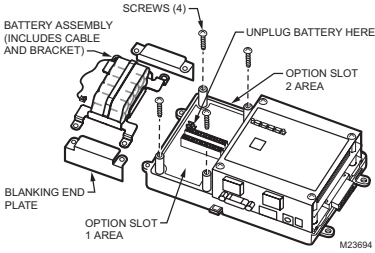

Fig. 2. Remove Screws and Battery Assembly.
FTT-10A LON (LonWorks) adapter with 2-position removable screw-terminal connector plug.	<p>Up to 2 LON® option cards may be installed.</p> <ul style="list-style-type: none"> If one Lon option, it operates as LON1, regardless of slot. If two LON options, LON1 is Option slot 1 and LON2 is Option slot 2. <p>See Fig. 2 for location of option slots.</p>
3. Remove the battery and bracket assembly by taking out the four screws holding it in place and set them aside for later. Unplug the battery from the connector on the controller (See Fig. 2).